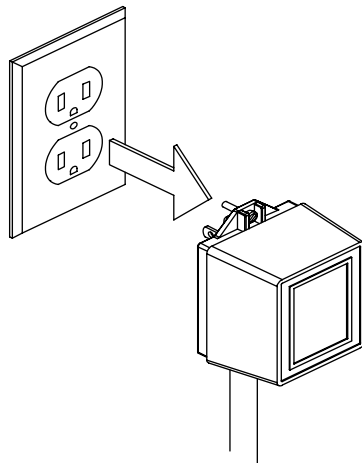

Figure 29
Step 1: Unplug the water heater and Setback Control. This is shown in Figure 29.